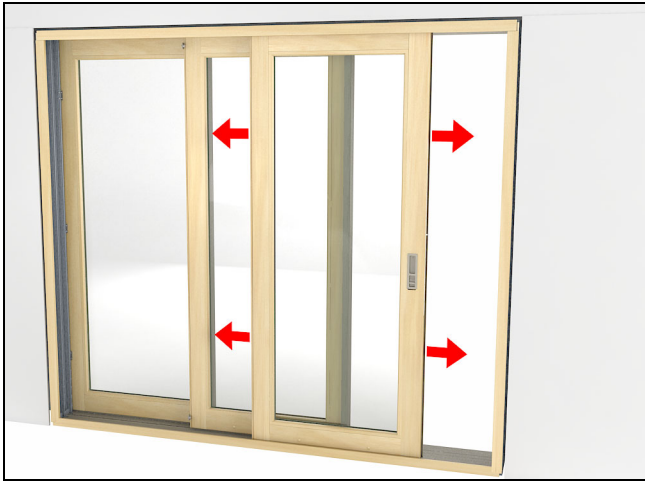

Figure 45
5. Operate the doors to ensure smooth movement and check positioning of the interlocks, head jamb, side jambs and lock engagement. Make any necessary adjustments at this time. See figure 45.